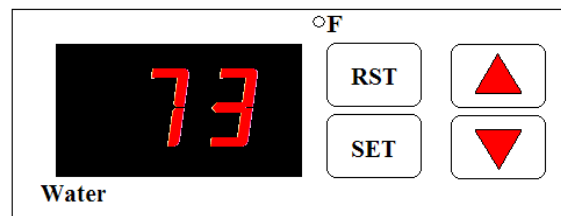

Figure 1
- The control on the front should now be on and displaying the current water temperature sensed. See Figure 1 below for an example.